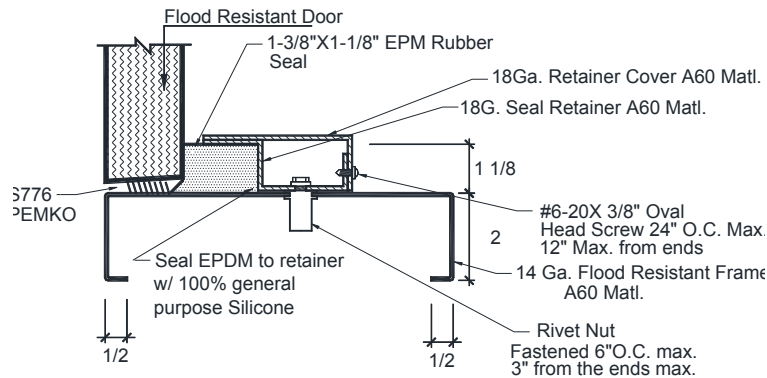

FIGURE 4
F. Install the EPDM rubber Sound Tight seals into the retainers beginning at the top and bottom corners, working toward the center. Note that the small V-shaped leg of the seal must be toward the door. (**Fig. 4**). It's important that the seals are installed properly.